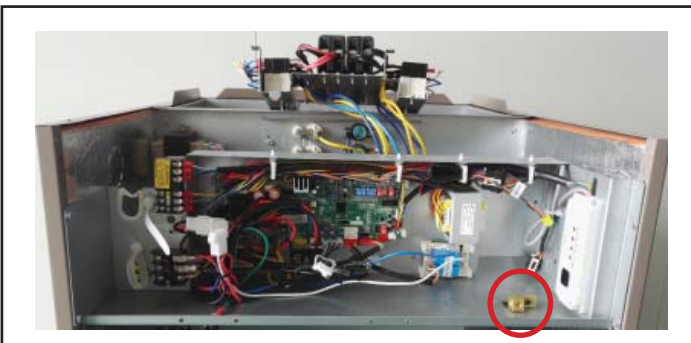

Figure 14. Install Grounding Terminal
15. Install the grounding terminal as shown in figure 14.